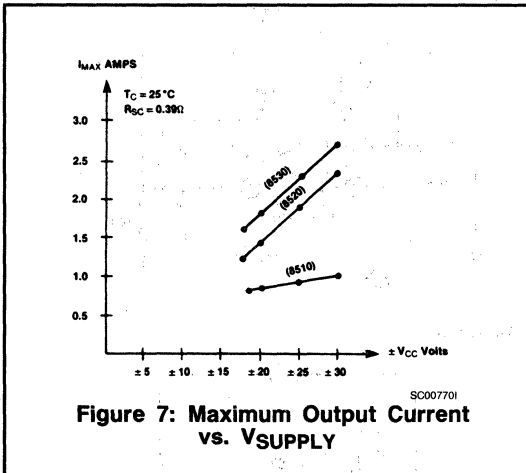

Figure 7: Maximum Output Current vs.  $V_{SUPPLY}$
**NOTE 2:** See Figure 7 if Power Supplies are less than ±30V.